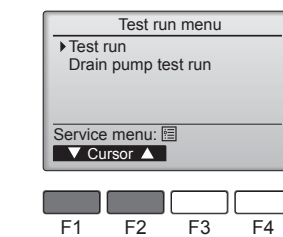

Fig. 7-4
- ④ Select "Test run" with the [F1] or [F2] button, and press the [RETURN] button. (Fig. 7-4)